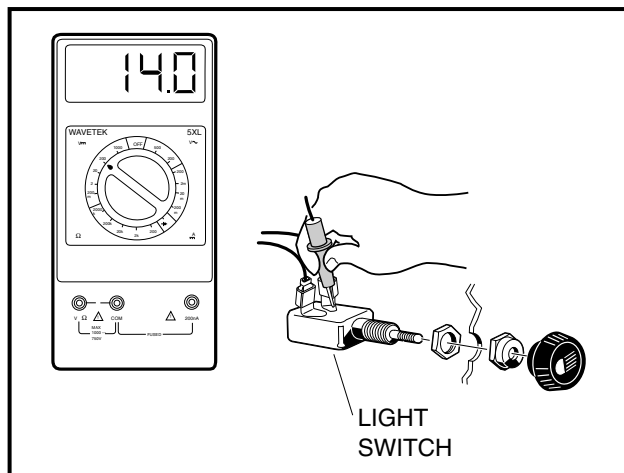

Figure 11a-56 Light Switch Test
3. Using a multimeter set on 20 volts DC, place alligator clips on the multimeter probes. Connect the red (+) probe to the light switch terminal with the blue wire connected to it (**Figure 11a-56, Page 11a-47**).